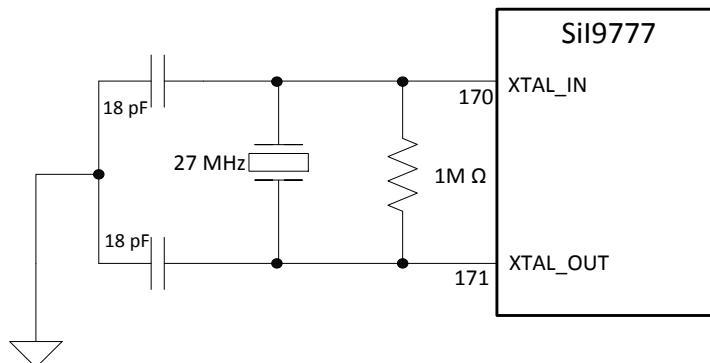

Figure 5.2 27 MHz Crystal Circuit
*Note: A 27 MHz crystal or oscillator clock source is required for operation. Refer to Figure 5.2 on page 50.